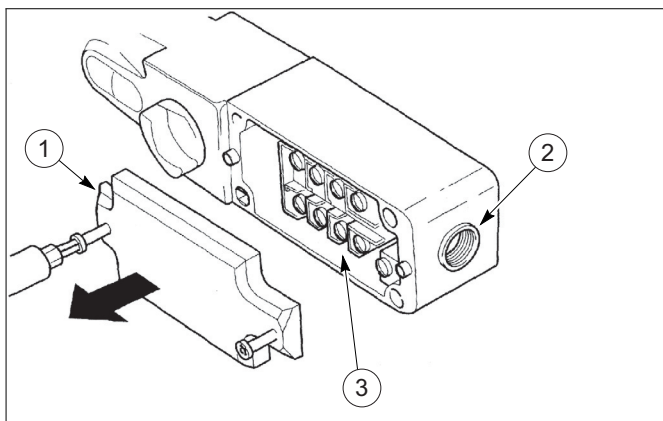
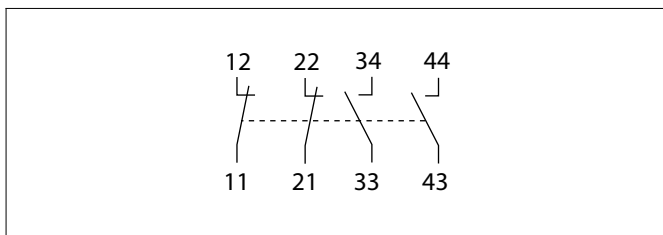

fig. 9 Opening the emergency stop switch
fig. 10 Connecting the emergency stop cord switch
5. Connect the connecting cable in the switch box. See fig. 9 and fig. 10.